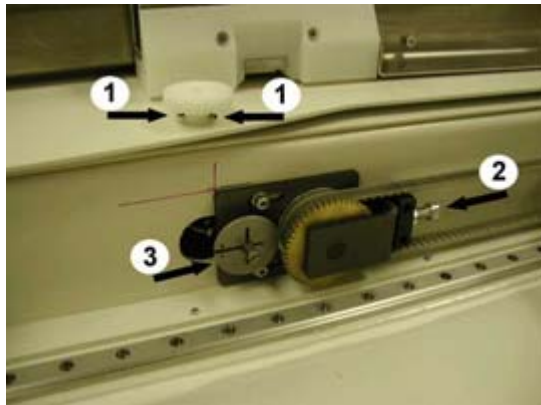

Fig. 103: Sprocket potentiometer tensioner
- Loosen the grub screws from the sprocket for the potentiometer and remove the sprocket, see \(1/Fig. 103 / p. 91\).
- Tension the toothed belt with the tensioning screw, see \(2/Fig. 103 / p. 91\).
- Turn the potentiometer until the tolerance value is approx. "Zero", see (3/Fig. 103 / p. 91)